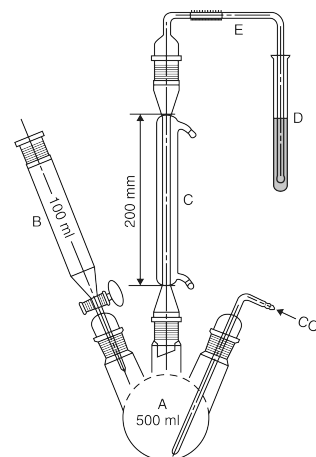

Figure 1. Apparatus for determination of sulfur dioxide.
Analysis: Introduce 150 mL of water into the flask (A) (see *Figure 1*), and pass carbon dioxide through the whole system for 15 min at a rate of 100 mL/min. To 10 mL of hydrogen peroxide solution [30 g/L of hydrogen peroxide (H₂O₂)] add 0.15 mL of *bromophenol blue TS*.^{1S (NF34)} Add 0.1 M *sodium hydroxide* until a violet-blue color is obtained, without exceeding the endpoint. Place the solution in the test tube (D). Without interrupting the stream of carbon dioxide, remove the funnel (B), and introduce through the opening into the flask (A) the *Sample* with the aid of 100 mL of water. Add through the funnel 80 mL of dilute hydrochloric acid [73 g/L of hydrogen chloride (HCl)], and boil for 1 h. Open the tap of the funnel, stop the flow of carbon dioxide, and also stop the heating and the cooling water. Transfer the contents of the test tube with the aid of a little water to a 200-mL wide-necked, conical flask. Heat on a water bath for 15 min, and allow to cool. Add 0.1 mL of *bromophenol blue TS*,^{1S (NF34)} and titrate with *Titrant* until the color changes from yellow to violet-blue.